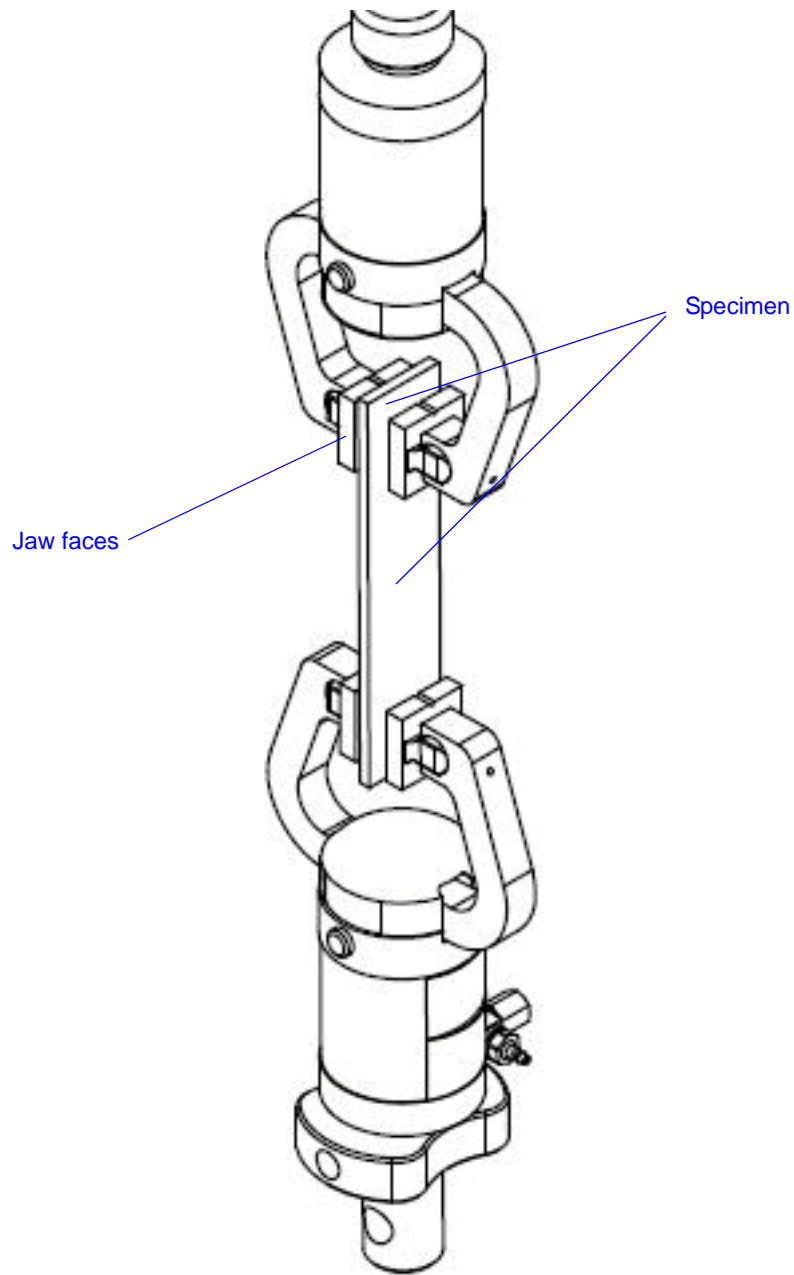

Figure 4-1. Specimen Installation
1. Center the specimen in the grips. Make sure the specimen is perpendicular and contacts the entire length of the jaw faces as shown in Figure 4-1 on page 4-4.